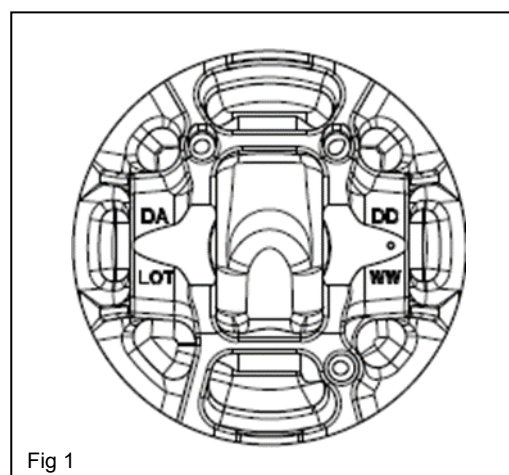

Fig 1
- 2.1 Confirm the O.D. of the piston skirt on the back of the piston. The diameter is between 87.450 to 87.460 mm. The last 2 numbers of the 3 digits after the decimal point are shown on the back of the piston. (e.g.: If the O.D. is 87.455 mm, "55" is shown on the back of the piston.) (See the Fig 1)